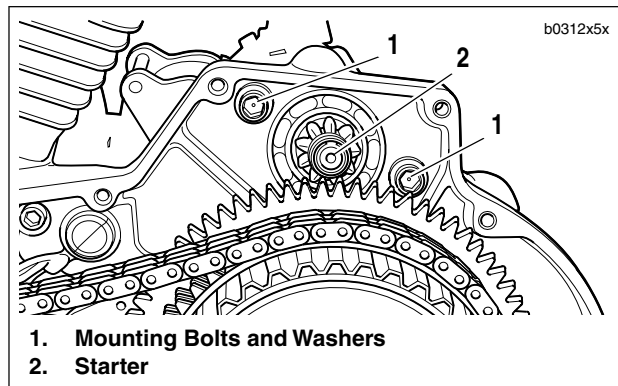

Figure 5-9. Starter Mounting
3. See Figure 5-9. Remove both starter mounting bolts and washers (1).